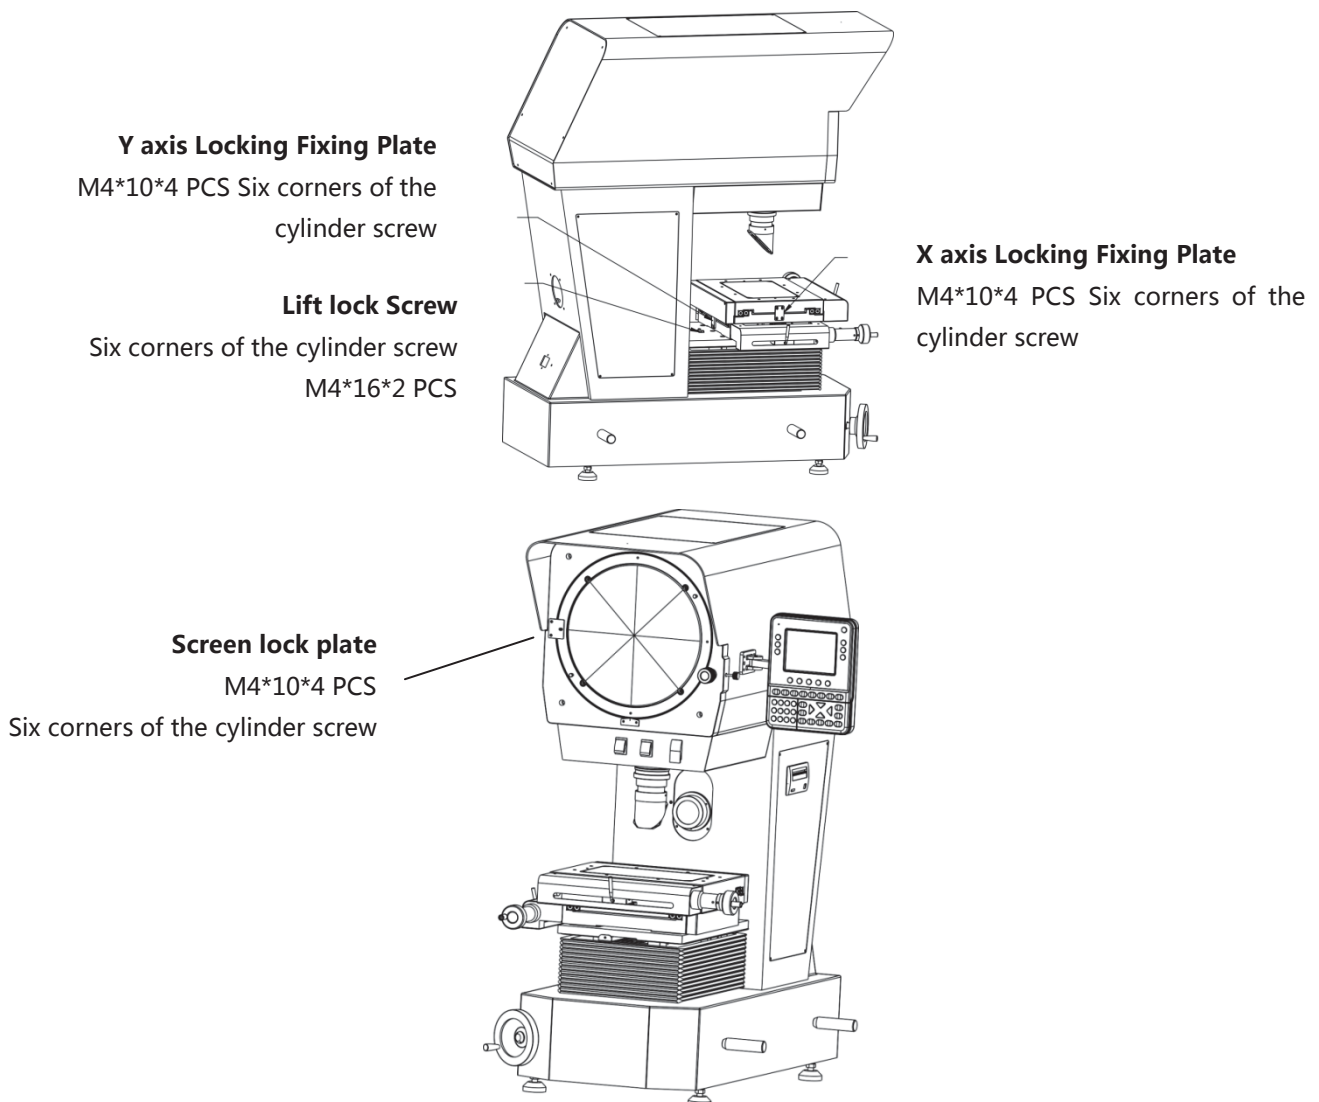

Fig 6 Unpacking and Installation of Instruments
- Remove the instrument outer packing box and the inner box, take out the instrument manual and read the contents of this section first. (Fig 6) .